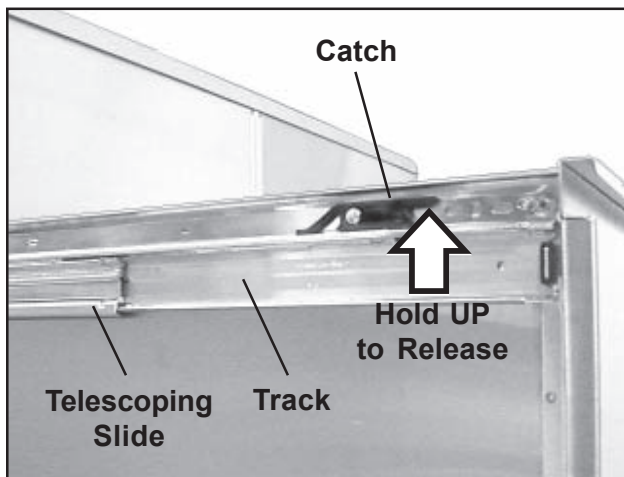

Figure 18. Removing and Replacing a Drawer
2. Hold up the black catches on both sides of the drawer (Figure 18) and pull the drawer out.